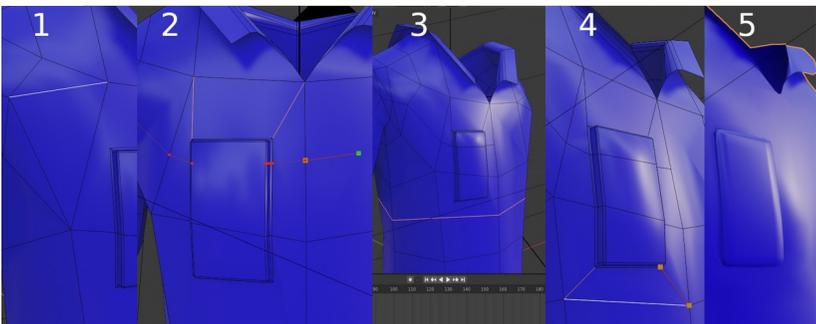

Figure 7-7 Using the knife tool to create quads
Both the above methods are fine and useful in different circumstances, but they cannot be easily be mixed without the danger of creating faces on top of each other. Figure 7-7 shows the sequence using the first technique. You will essentially use the other technique for the whole second half of this chapter.
21. With the knife tool divide up polygons with more than four sides. Your objective is to make quads with corner angles neither too acute or too obtuse. If Figure 7-7 stage 2 you can see that the quad above and to the left of the pocket has three vertices nearly in a line which will limit the ways it can bend, and should be avoided.
22. In Figure 7-7 stage 3 I have used **Edge ▸ Loop Cut and Slide** to reduce the gap between the bottom of the pocket and the horizontal edge below it. By Figure 7-7 stage 5 the strange distortions around the pocket have become much improved.